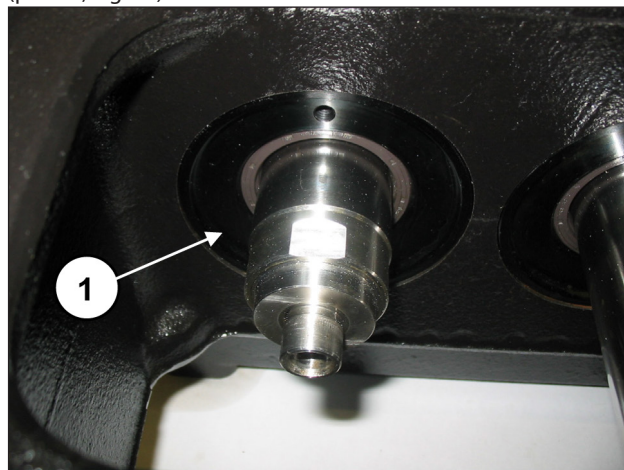
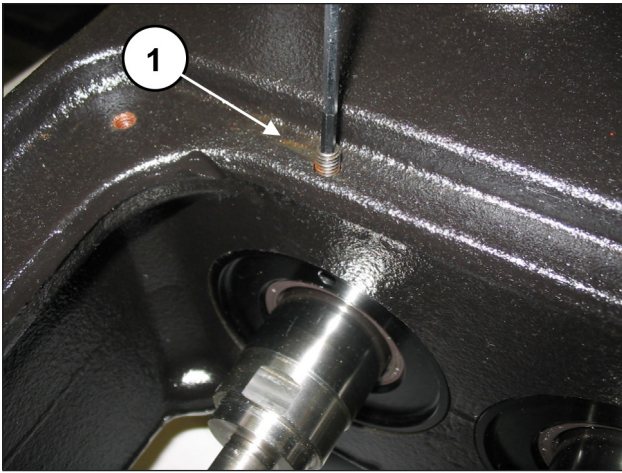

Fig. 95
Fig. 96
Insert the assembly into the casing and into the seat provided, making sure that the cover completely enters its seat (pos. ①, Fig. 95) being careful not to damage the lip of the radial seal ring. Screw in the oil seal covers using 2 x M6x30 grub screws (pos. ①, Fig. 96).